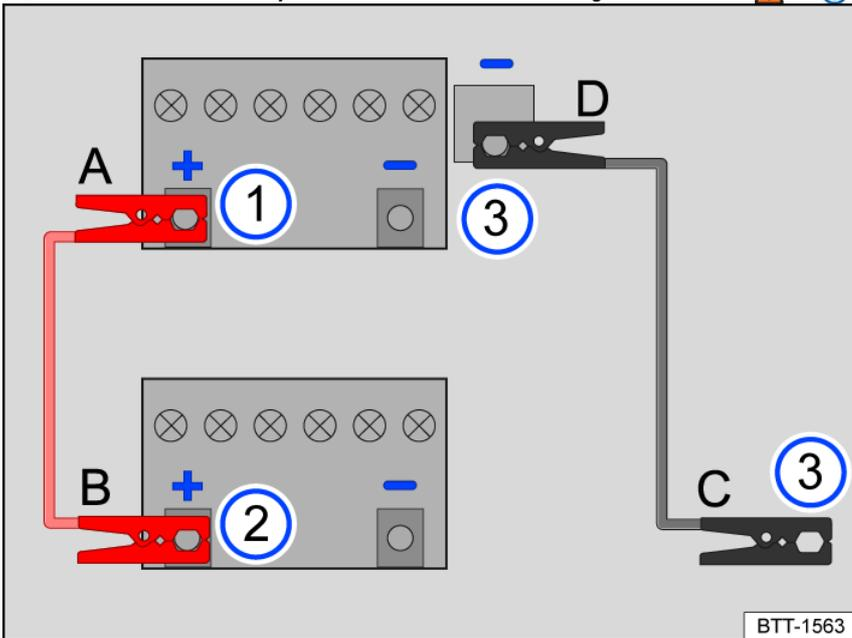
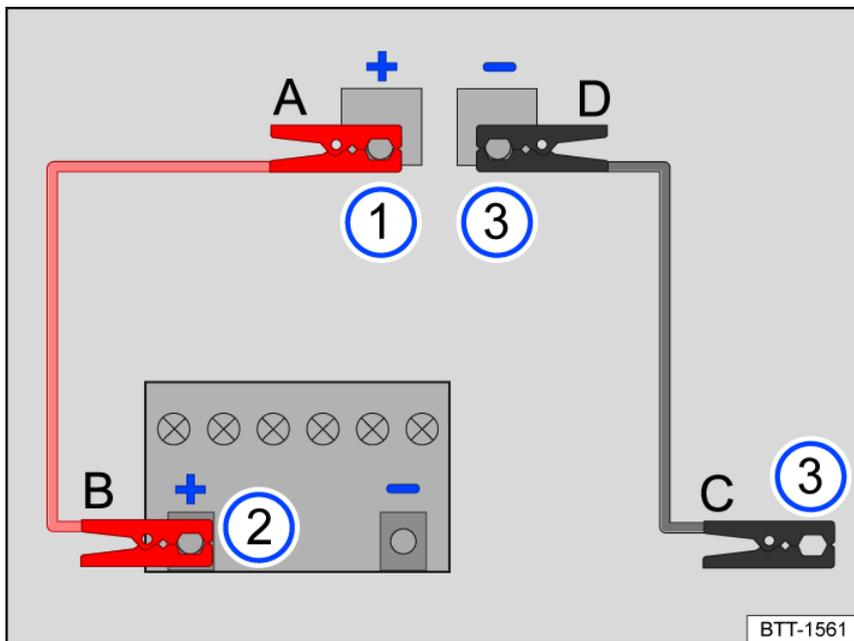

Fig. 183 Diagram for connecting the jumper cable (12-volt vehicle battery in the engine compartment).
Fig. 184 Diagram for connecting the jumper cable to the vehicle providing the power for the jump start (12-volt vehicle battery in the luggage compartment).
Key for *fig. 183* and *fig. 184*:
Only connect the jump-start cables in the sequence **A – B – C – D** *fig. 183*.
- Connect one end of the *red* jumper cable **A** to the positive terminal + of the vehicle's battery with the discharged 12-volt vehicle battery *fig. 183* ① → ⚠.
- Connect the other end of the *red* jumper cable **B** to the positive terminal + of the battery on the vehicle providing the power *fig. 183* ②.
- Connect one end of the *black* jumper cable **C** preferably to a jump-start point (ground connection), otherwise to a solid piece of metal that is firmly bolted to the cylinder block or to the actual cylinder block of the vehicle providing the power *fig. 183* ③.
- Connect the other end of the *black* jumper cable **D** to the jump-start point (negative connection) or a large metal part bolted to the engine block or to the engine block itself in the vehicle with the drained 12-volt vehicle battery *fig. 183* ③ → ⚠.
Only connect the jump-start cables in the sequence **A – B – C – D** *fig. 184*.
- Connect one end of the *red* jumper cable **A** to the jump-start point positive battery terminal (+) on the vehicle with the discharged 12-volt vehicle battery *fig. 184* ① → ⚠.
- Connect the other end of the *red* jumper cable **B** to the positive terminal + of the battery on the vehicle providing the power *fig. 184* ②.
- Connect one end of the *black* jumper cable **C** preferably to a jump-start point (ground connection) on the vehicle providing the power from its 12-volt battery, otherwise to a large metal part bolted to the engine block or to the engine block itself *fig. 184* ③.
- Connect the other end of the *black* jumper cable **D** preferably to the jump-start point ground connection on the vehicle with the discharged 12-volt vehicle battery (–), otherwise to a large metal part bolted to the engine block or to the engine block itself *fig. 184* ③ → ⚠.
- With the engines running, always disconnect the jump-start cables in the sequence **D – C – B – A** *fig. 183* or *fig. 184*.